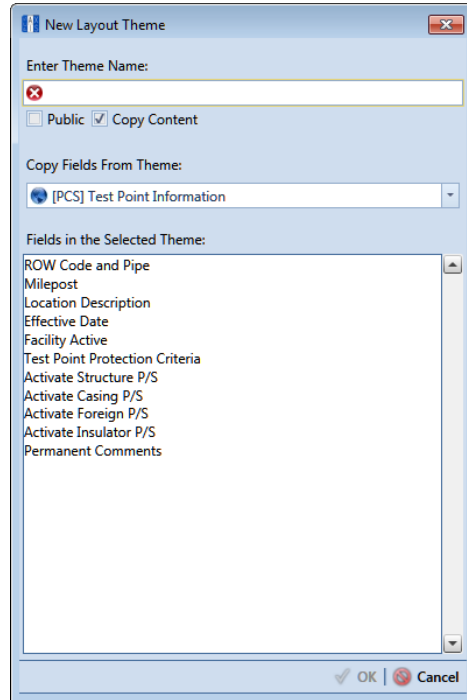

Figure 7-106. New Layout Theme
- 5 Click the **Customize** tab  then the  **Add** button to open the *New Layout Theme* dialog box (Figure 7-106).